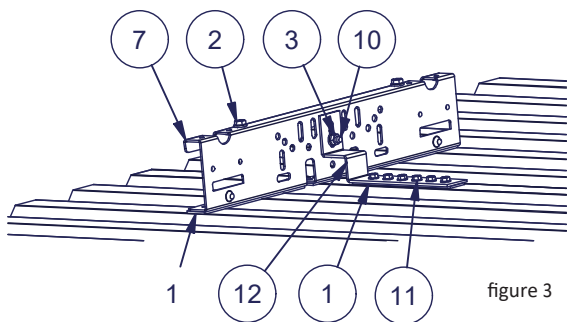

figure 3
Place EPDM sealant strip (1) to the bottom of Pisko MultiFast fasteners (7) and fixing rods (12). Install the fixing rods on the ridge of the steel roof with six stainless steel sheet metal screws (do not over tighten). Attach the fixing rods to MultiFast fasteners with M8 square neck bolt and M8 flange nut. Attach the roof walkway (8) to MultiFast fasteners with M8x20 flange screws (figure 3).